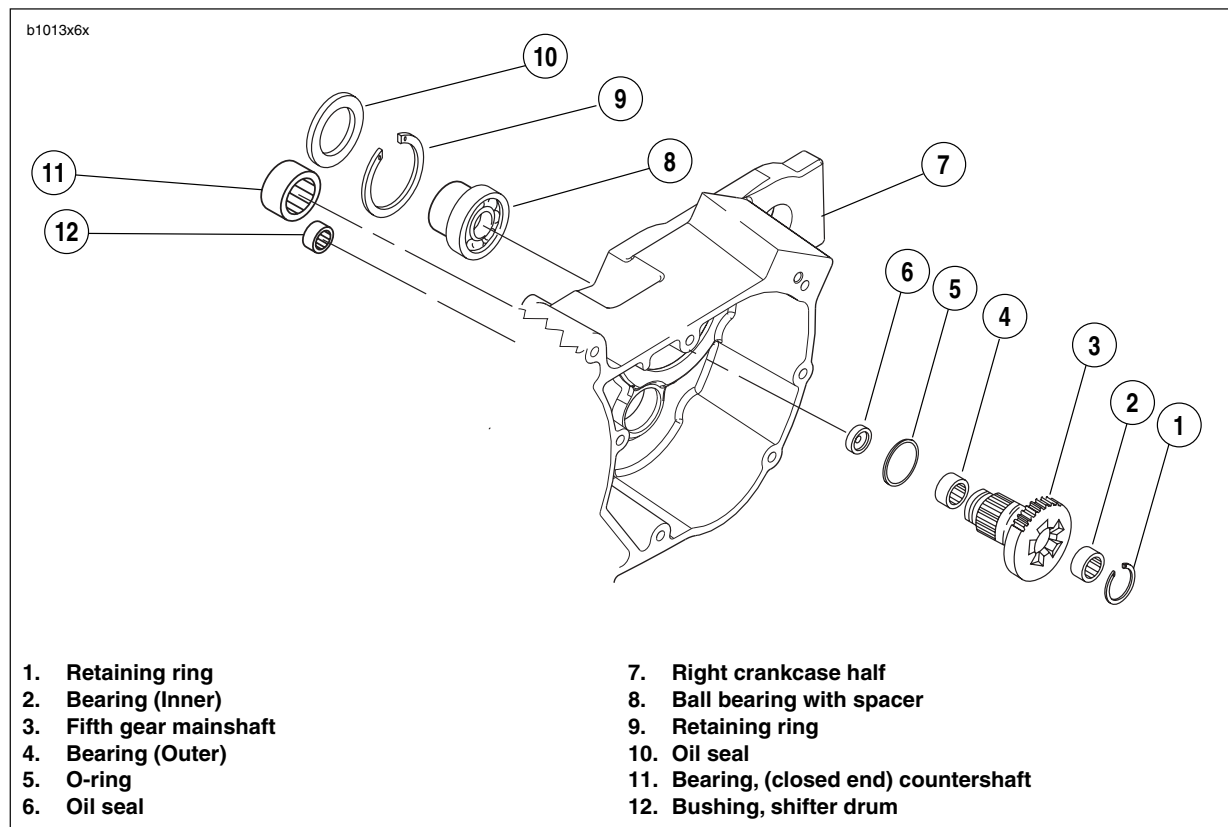

Figure 6-66. Transmission Assembly-Right Crankcase Half
1. See Figure 6-66. At outside of case remove and discard oil seal (10). Remove and discard main drive gear bearing retaining ring (9).
6. See Figure 6-66. At outside of case install **new** beveled retaining ring (9) in groove inside bearing bore with beveled side facing outside of case.